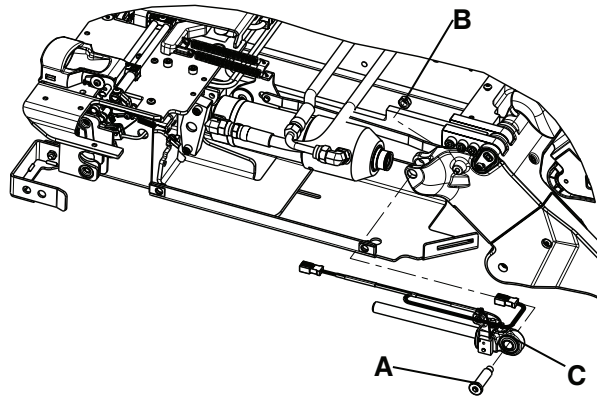

Figure 23 – Hydraulic cylinder rod end assembly
4. Using a 1/4" hex wrench and a 1/2" combination wrench, remove the end cap cylinder pin (A) and nut (B) (Figure 23). Save the end cap cylinder pin and nut.
6. Lift the cylinder while you pull the hydraulic cylinder rod end assembly (C) out (Figure 23). Discard the hydraulic cylinder rod end assembly.